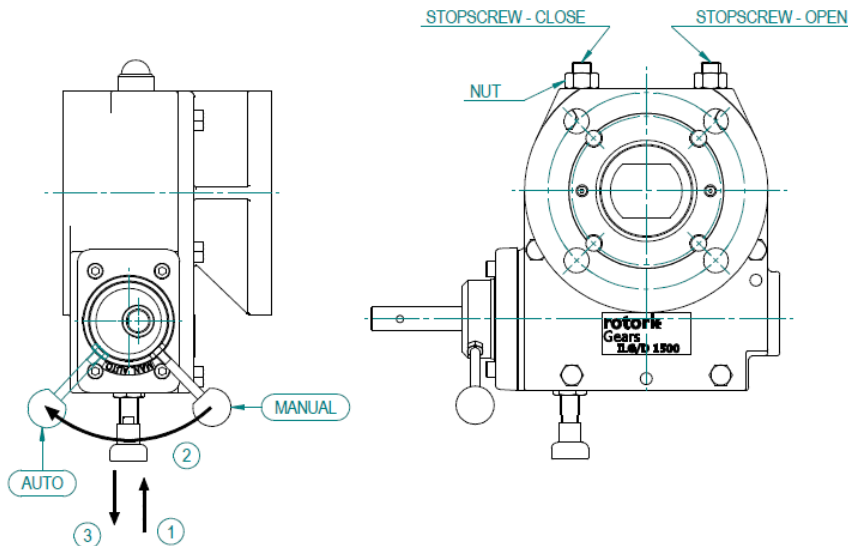
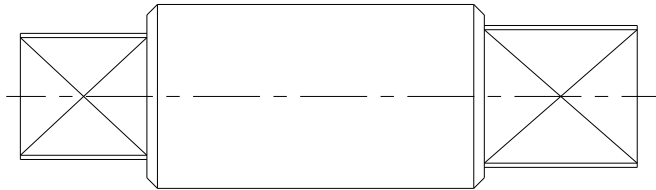

Figure 6: ILG/D gearbox stopscrew adjustment
Figure 7: Driveshaft example from an ILG/D gearbox
2. Put the gearbox in the manual-mode by turning the handle 90 degrees counter clockwise (see 'operating' and/or figure 6: 1 (pull the nob) → 2 turn the selector → 3 loose the nob and make sure it is released in.
3. Turn the valve into fully closed position by turning the handwheel clockwise. When the fully closed position can not be achieved, loosen the stopscrew-close (see figure 6) Continue turning the handwheel until the valve is fully closed.
5. Open the valve by turning the handwheel counter-clockwise. When the fully open position can not be achieved, loosen the stopscrew-open (see figure 6). Continue turning the handwheel until the valve is fully open.
8. Pull the knob outwards (3) and turn the handle (clockwise) until knob falls back into its locked-position (2).
- b. Position the driveshaft (see figure 7) in top of the gearbox.